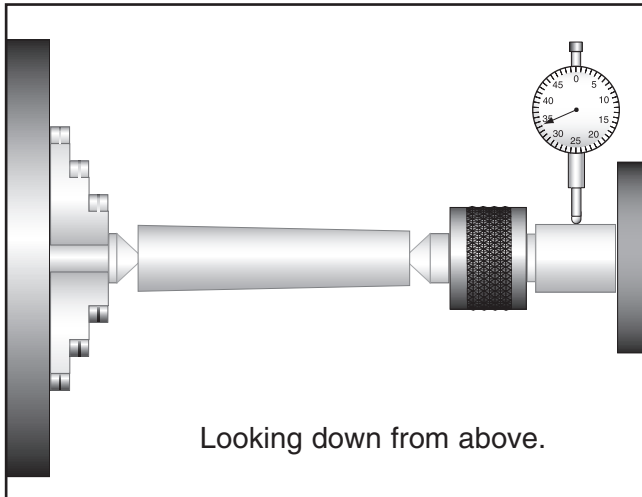

Figure 40. Adjusting for tailstock end taper.
- If the stock is thinner at the tailstock end, the tailstock needs to be moved toward the rear of the lathe by at least the amount of the taper (see **Figure 40**).